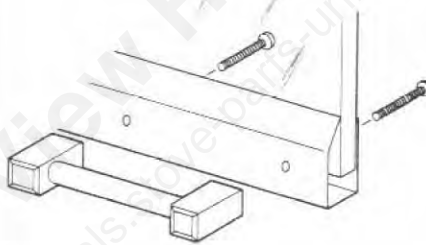

Figure 55
**Step 9.** Attach the four (4) brass and wood handles to the lower door frames with two (2) plated No. 6 Phillips pan head screws per handle. Cover the screws with the button plugs from the hardware kit (Figure 55).